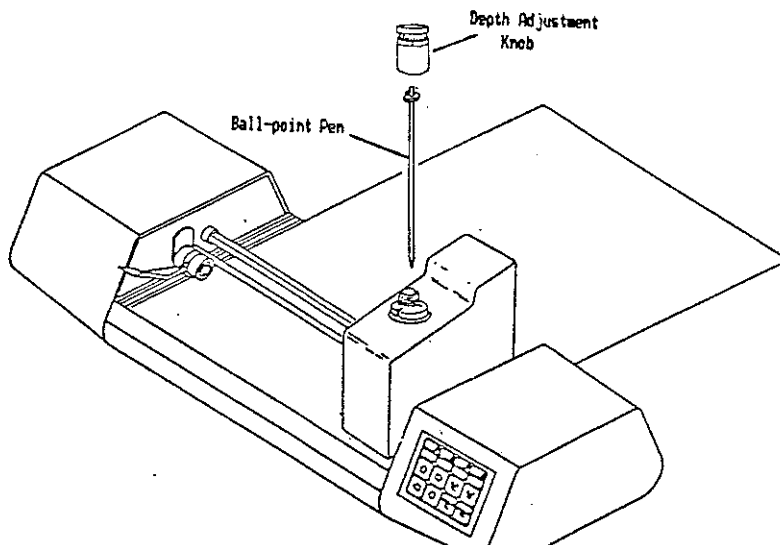

FIGURE 1-5. INSTALLING A BALL-POINT PEN
1. Remove the depth adjustment knob from the blade assembly unit by turning it counterclockwise (see Figure 1-5).
2. Place the ball-point pen into the hollow shaft of the blade assembly unit as shown in Figure 1-5. Gently press down on the ball-point pen until it seats against the bottom of the blade assembly unit.